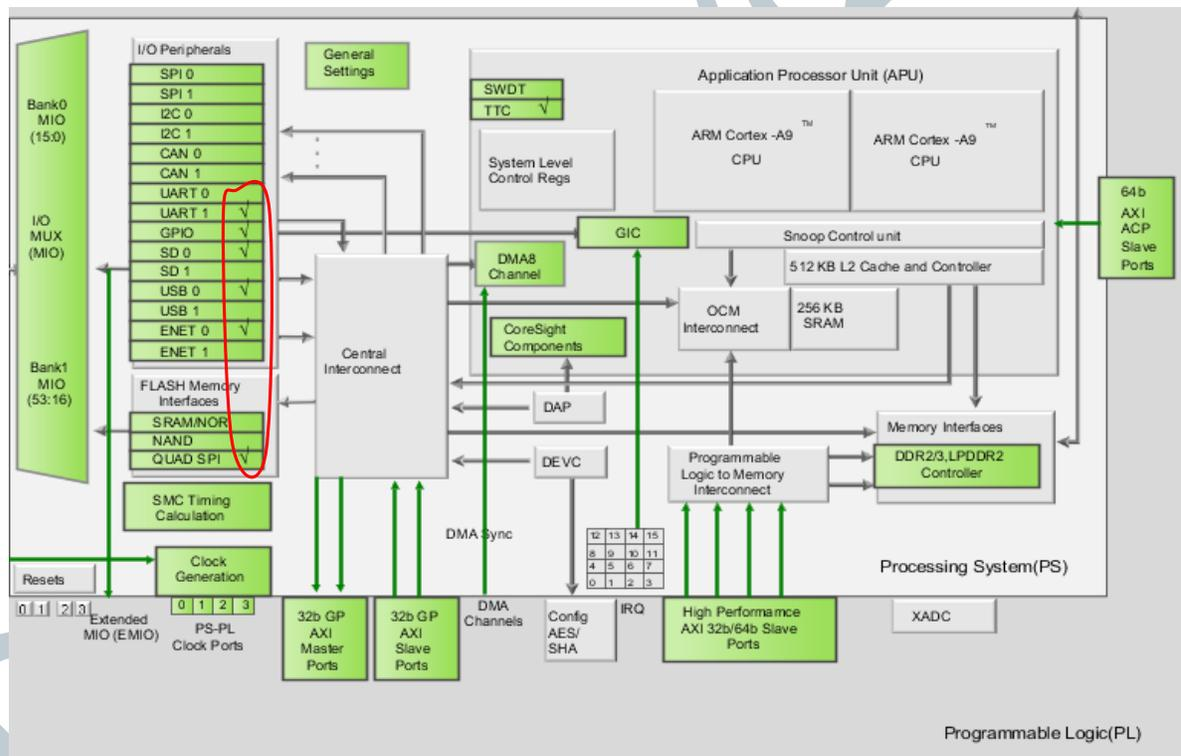

Figure 1. Zynq Block Design showing the I/O peripherals and FLASH Memory Interfaces supported by the ZYBO Board (marked with ✓)
- ✓ Load the `ZYBO_zynq_def.xml` file (Import XPS Settings). This will indicate the peripherals and interfaces the ZYBO Board can interface with. Note that a ✓ appears next to the available ones (Fig. 1). If this file is not loaded, the software application might not work as expected when using a certain peripheral (e.g. UART).
- ✓ Look at the I/O Peripherals list and Flash Memory interfaces in the Zynq Block Design (Fig. 1). The ZYBO Board can only interface with a handful of them (and they are marked by a ✓).